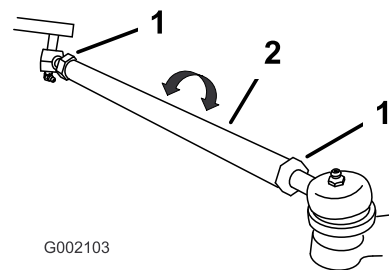

Figure 12
- If the measurement does not fall within the specified range (refer to the dimensions and parameters at the beginning of this procedure), loosen the jam nuts at both ends of the tie rods (Figure 12).